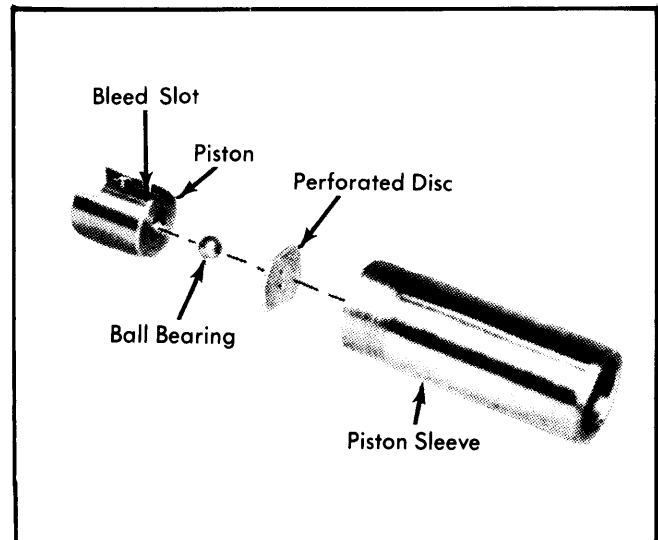

Fig. 10 Exploded View of Chain Tensioner Piston Assembly
3) Reassemble sleeve, perforated disc, ball bearing and piston, making sure perforated disc does not block bleed slots (See Fig. 10).